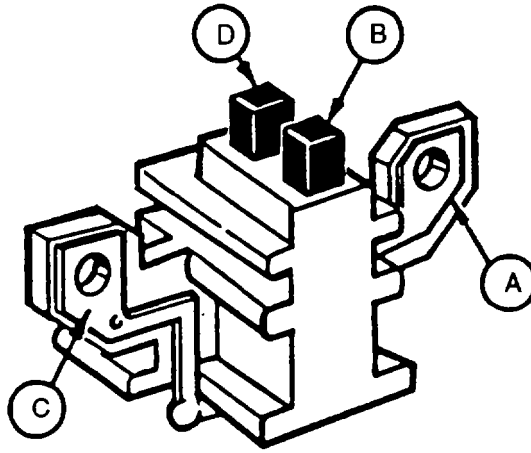

FIGURE 3-8. Testing Brush Assembly
- a. Set multimeter for ohms and check brush assembly (refer to FIGURE 3-8) for continuity between mount A and brush B, and mount C and brush D. Check for open circuits between mount A and mount C, mount A and brush D, mount C and brush B, and brush B and brush D. Replace brush assembly if indications are other than stated.